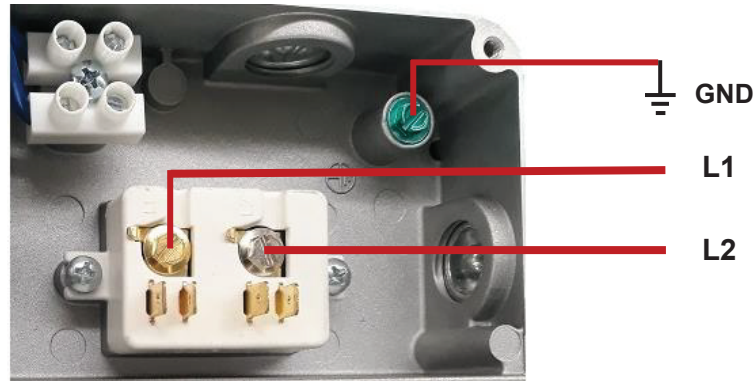

Figure 2 – AC Input Terminal Block
5. Install the **AC** and **Ground** power input wires as specified on the motor nameplate. You must connect **L1**, **L2**, and **GND** (Green Screw) in the wiring compartment correctly and securely (Figure 2).